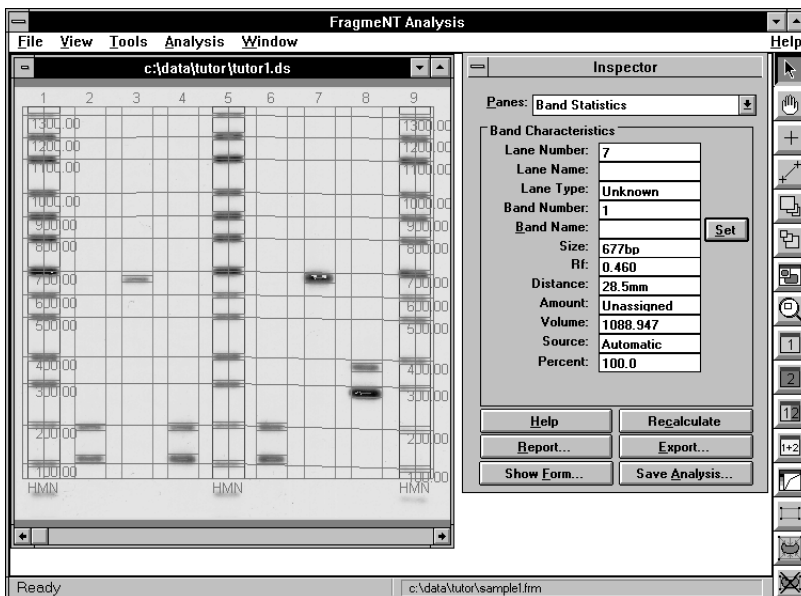

Figure 3-12. Obtaining band statistics.
2. Click **Done**. The Band Statistics inspector appears (figure 3-12).
The Band Statistics inspector (figure 3-12) displays the following information about any band you select. To select a band, click the band marker. Handles appear on the marker to indicate the band is selected.
1. Place the pointer on a band marker and click the mouse button. Handles appear on the marker (if they do not, click again). Statistics for that band appear in the inspector (figure 3-12).